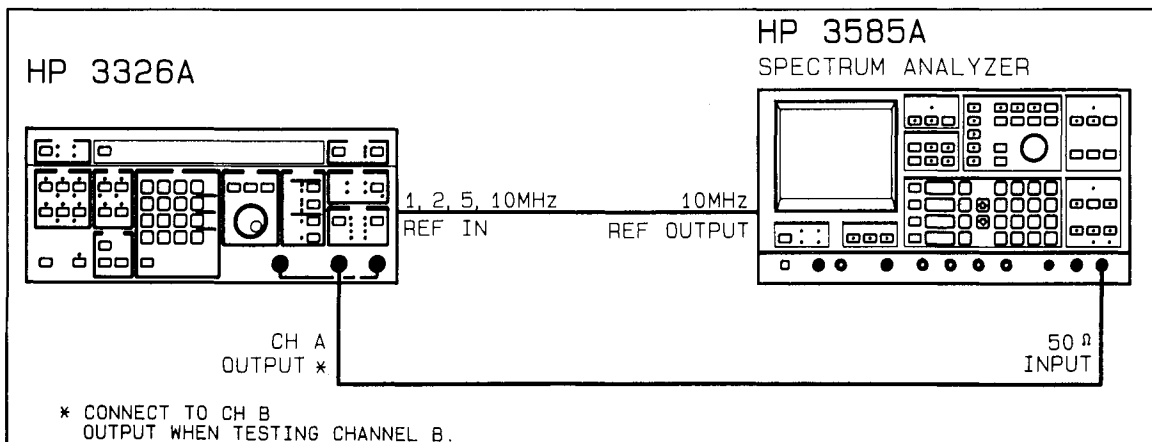

Figure 2-3. Spurious Signals Test
2. Connect the test equipment as follows (illustrated in Figure 2-3):